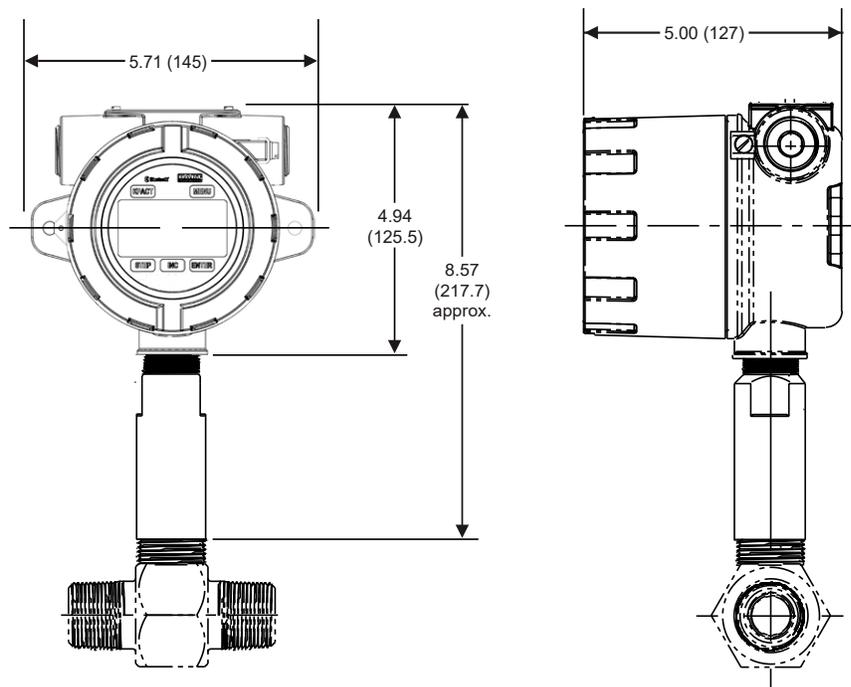

Figure 2.2—Direct mount to NUFLO turbine meter with 3/4-in. to 1-in. standoff tube (ATEX)
The ATEX-approved MC Synergy EXP may be mounted directly to a flowmeter, or mounted remotely on a pole and connected to a flowmeter with explosion-proof signal cable. The type of meter mount required varies with the meter in use. See Figures 2.2 through 2.4 for installation dimensions.
- Mount the device to a NUFLO turbine meter. A 3/4-in. to 1-in. standoff tube is required (Figure 2.2).